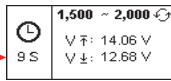
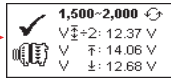

Fig.46
Fig.47
9. Press  key to continue and below display will show. (See Fig.46).
10. Rev the engine to around 2,000 RPM and hold, the timer shown on the display (Fig.46) will countdown from 10s to 0s. As soon as it reaches zero second, the results will automatically display as per example shown below (Fig.47).
12. Continue from the previous test (either Fig.47, 48 or 49); the display automatically switched to [Diode Ripple Test] as shown in Fig.50 below after 5 seconds.